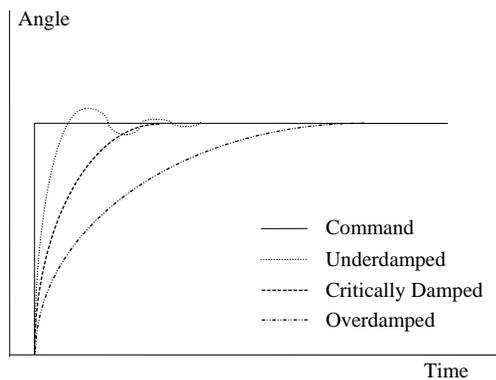

Figure 9: Step Response
The step waveform tuning can be adjusted to optimize the step time to the settling accuracy and step size (sizes) required by a particular application. Servo response to a step command can be characterized as overdamped, critically damped, or underdamped (See Figure 9). The small-signal *accuracy-optimized* tune will typically give a critically damped response for steps up to 10mR and either an overdamped or underdamped response for larger steps, depending upon their size.
- B. Monitor the position signal on an oscilloscope, set to 1V/div. Apply power to the MiniSAX. Increase the *error-proportional* gain, while adjusting the *velocity* to maintain a critically-damped response as shown in figure 9. The position signal should approach 6V_{pp} . Increase the command